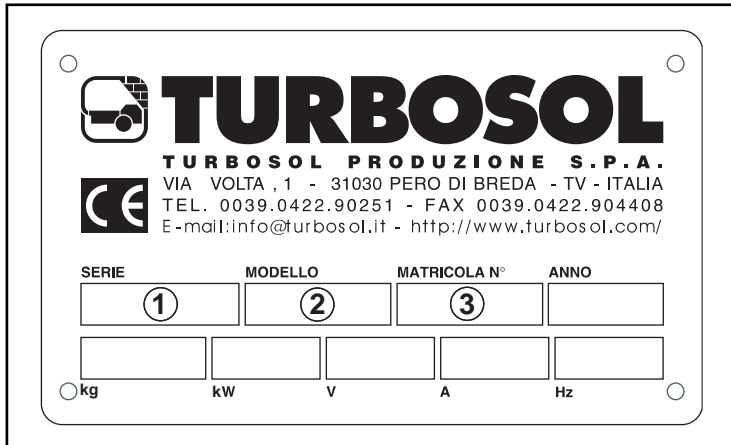

FIG.01
The CE mark appears on a 159x95 mm plate (FIG. 01) that is partially screen-printed and partially engraved. The machine's series (1), model (2) and serial number (3) are engraved on the nameplate, as well as its power rating. The meaning of the symbols used are as follows.
- (1) = Machine series.
- (2) = Machine model.
- (3) = Machine serial number.